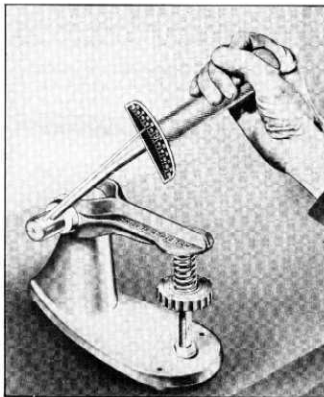

Fig. 13—Checking Valve Spring Tension
- Check valve spring tension with KMO-607 spring tester (fig. 13).